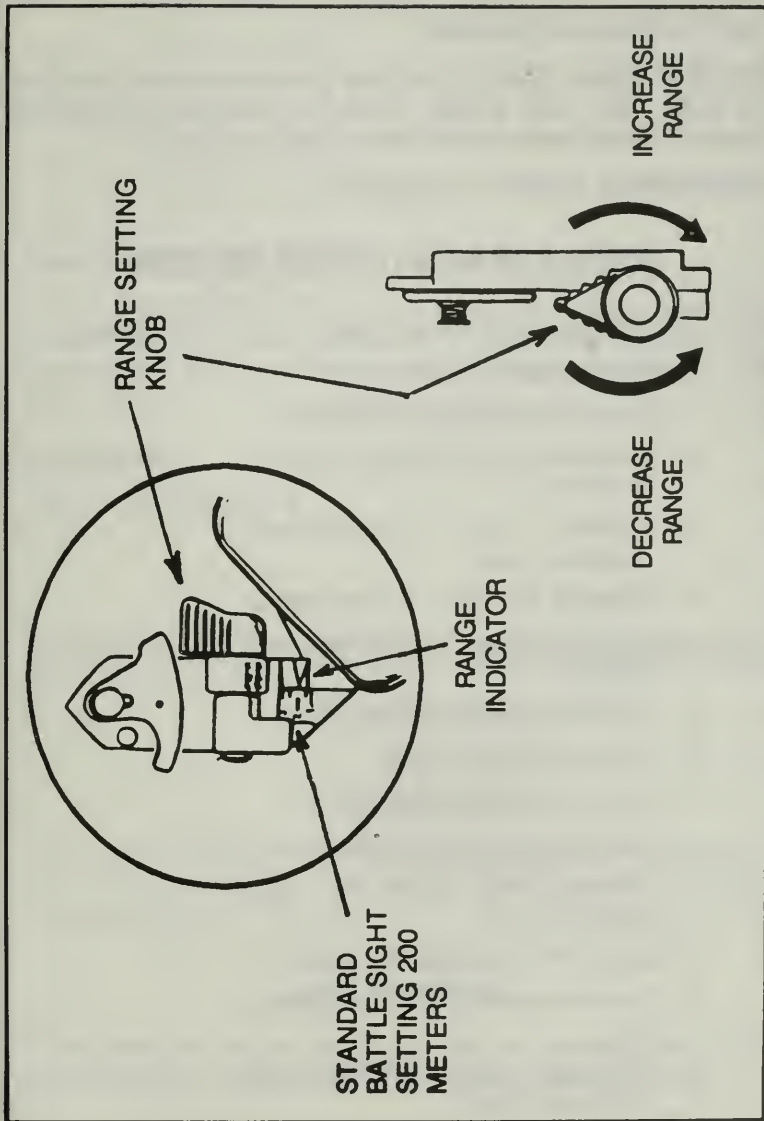

Figure 135. Adjusting the rear sight.
(1) When closing the sight cover, the sight must be set on a range of 200 meters. Therefore, when the rear sight is uncovered, the battlesight setting is 200 meters. If the range to the target is more than 250 meters, adjust the sight to the range. When the range is 250 meters or less, no sight adjustment is required (Figure 135).
(2) To adjust the rear sight range setting to more than 200 meters, turn the range knob clockwise (toward the muzzle). To decrease the range, turn the range knob counterclockwise (toward the gunner). There is a click at each 50-meter increment; this sound aids the gunner during limited visibility (Figure 135).